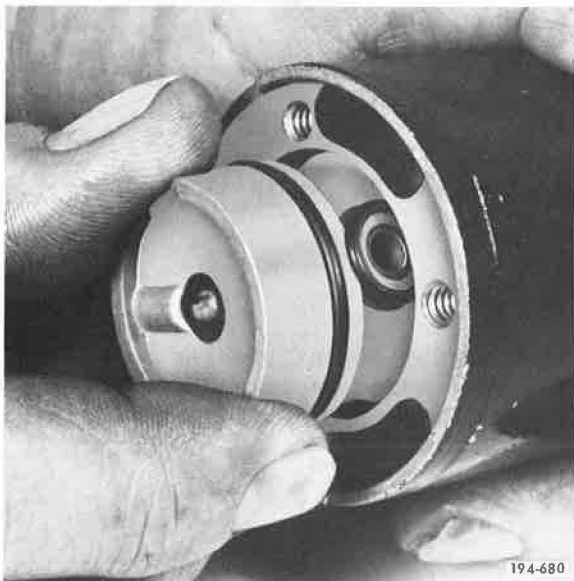

Figure 224. Installing Rotor
7. Hold exhaust valve in place against its spring, and install rotor into valve body. See Figure 224.